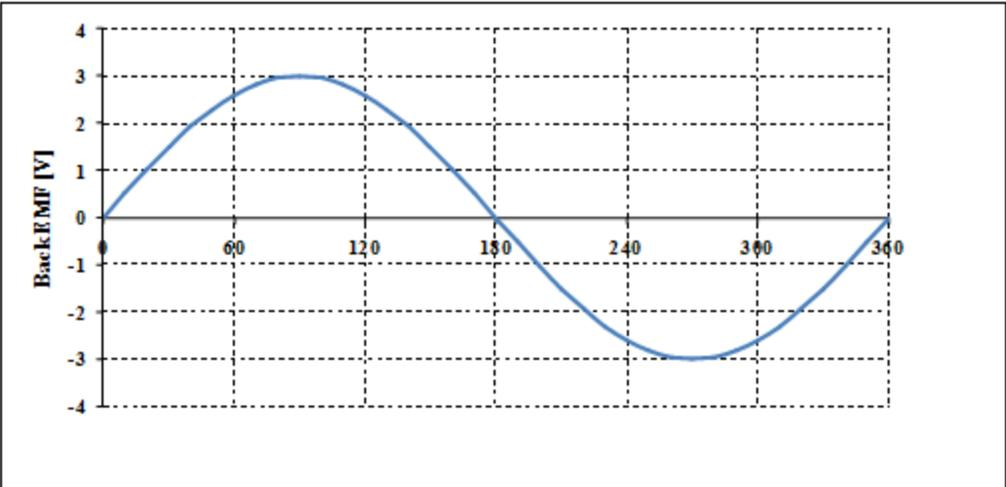

Figure 1a: Sinusoidal back emf
- Permanent Magnet Synchronous Machine with sinusoidal back e.m.f (**Figure 1a**)